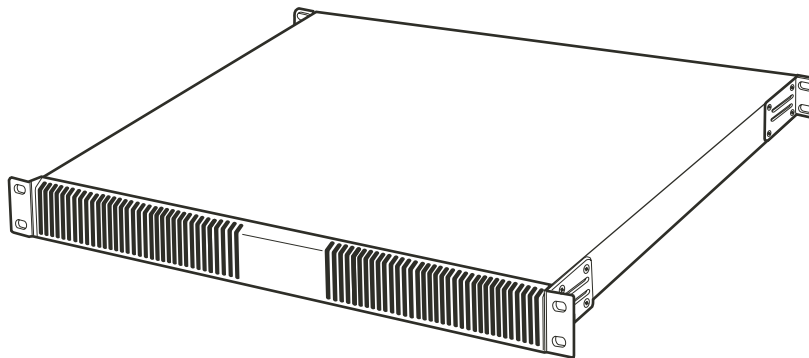

Figure 1. CM9770-MXB Mounting Baffle
1. Install the CM9770-MXB mounting baffle first (refer to Figure 1).